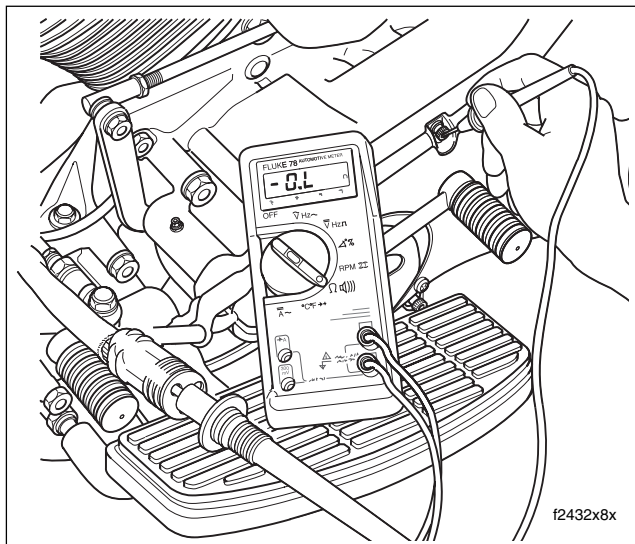

Figure 1-15. Test for Grounded Stator
- b. Insert ohmmeter probe into one of the three stator connector sockets. See Figure 1-15.